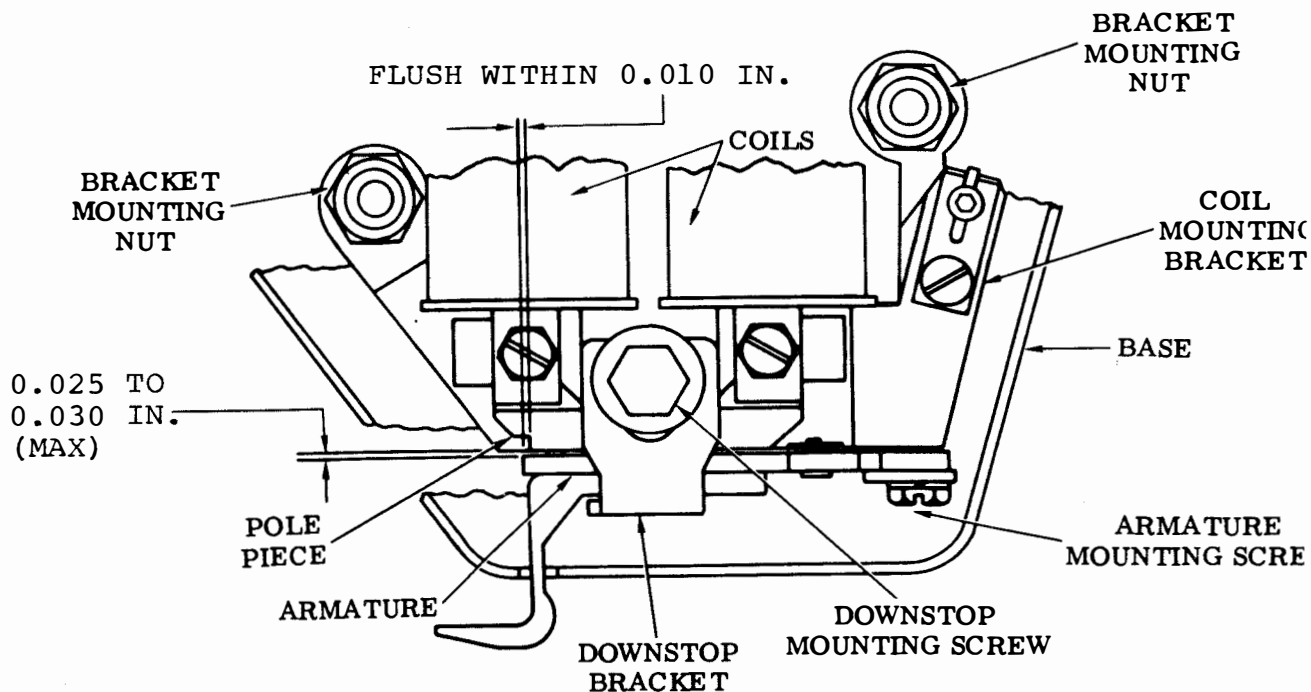

Figure 6-94. Selector Armature (RFI), Front View with Cover Removed
- (1) Refer to Figure 6-94.
- (2) De-energize magnet assembly and remove from base.
- (3) Loosen downstop mounting screw friction tight.
- (4) With armature resting against downstop, measure clearance between end of armature and left edge of left pole piece. Clearance should be between 0.025 inch and 0.030 inch maximum.
- (5) Position downstop to meet requirement, and tighten mounting screws.
- (6) Loosen armature mounting screws, and position armature so that its left edge is flush within 0.010 inch with left edge of left pole piece.
- (7) Tighten screw.